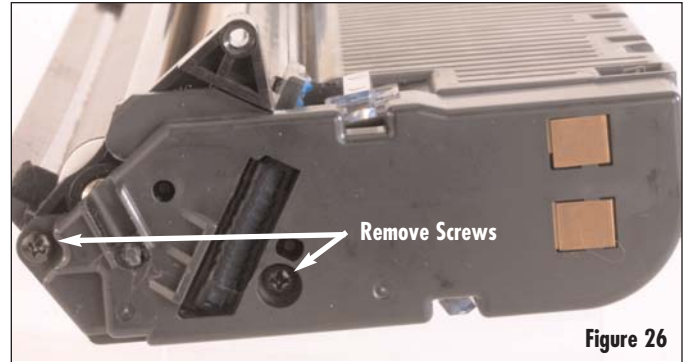

Figure 26
1. Remove the screws that secures the contact side end plate (Figure 26).